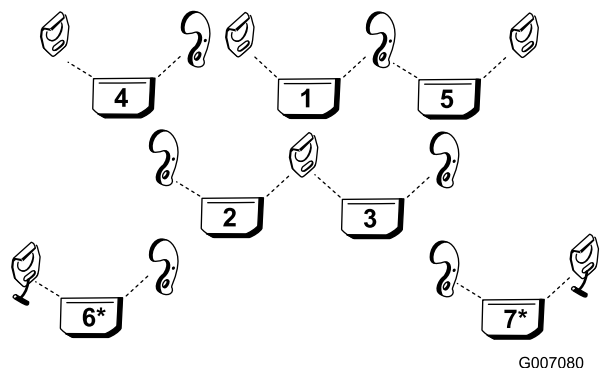

Figure 1
1. Use Figure 1 to determine the locations at which the new basket guides and basket brackets must be mounted to the #6 and #7 cutting unit carrier frames.
3. Remove the bolts and flat washers securing the basket guides to the outer ends of the #6 and #7 cutting unit carrier frames (Figure 1).